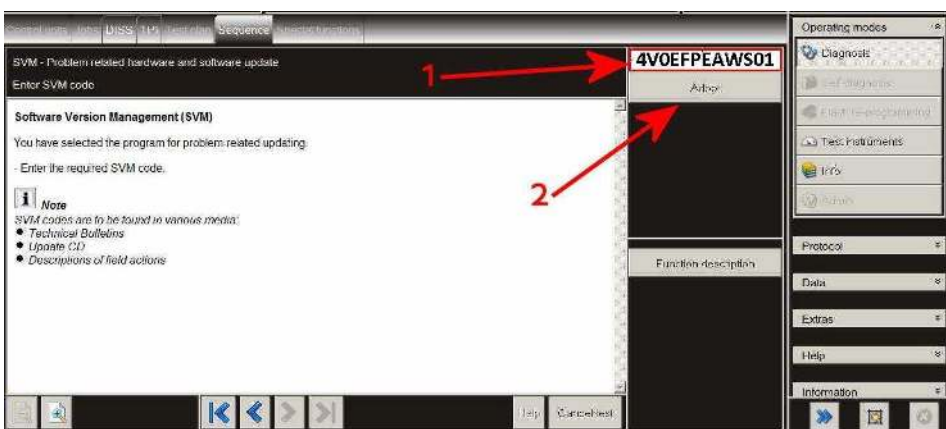

Figure 3
5. Referring to Figure 3 – At the SVM screen (1) enter the specific SVM code 4V0EFPEAWS01 and then select Adopt (2)